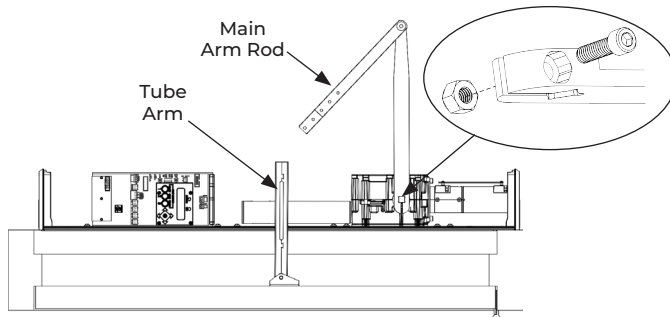

Fig. 15 View: Looking up from floor
1. Using hex wrench, secure main arm to bottom pinion with screw and nut. (Fig. 15)
2. Slide main arm rod into tube arm. (Fig. 15)